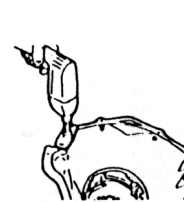

Figure 5
3. From the back side of the case, drive the combination aligning pin and sleeve driver forward out of the case (**Figure 5**). Install the 11/16" drill bit in a 3/8" or larger drill. Oil the drill thoroughly to allow accurate cutting. Drill completely through the case.